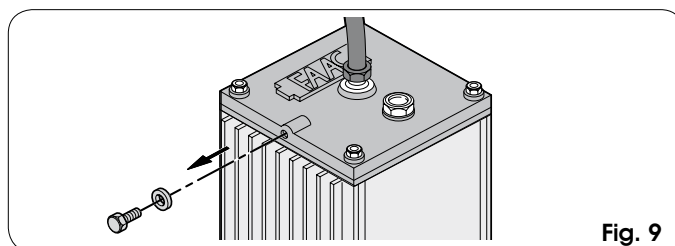

Fig. 9
- 3) Remove and store the breather screws as shown in Fig.9.
- 1) Make sure that the bleed screw was eliminated (Fig.9)
4. Screw the bleed screw on the control unit (Fig.9).
11. Remove the bleed screw (Fig.9) and carry out the air bleed operations as indicated in paragraph 8.2.